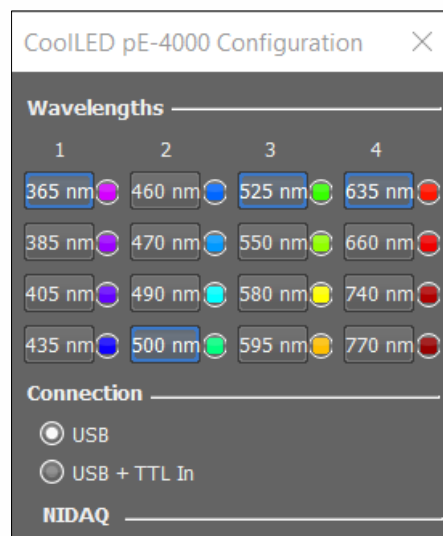

Figure 9: CoolLED pE-800 Configuration Pad (A) and pE-4000 Pad (B)
6. In the 'pE-800 Configuration' pad, select the connection (Figure 9). The Configuration Pad appears differently depending on the CoolLED Illumination System in use (see the pE-800 compared to the pE-4000, Figure 9).